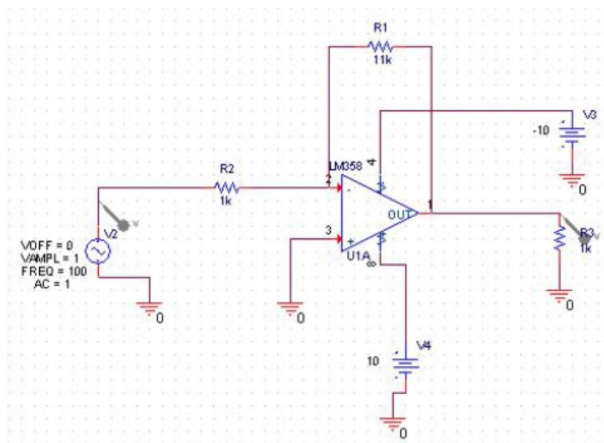

Figure 1: The following represents the signal conditioning circuit we will model our design procedure around.
2. Construct the circuit of figure 1 below by dropping parts, connecting with wires, and assigning values. *Note: Import all libraries to gain access to the LM358 op-amp as well as importing the connector library which will be used later: